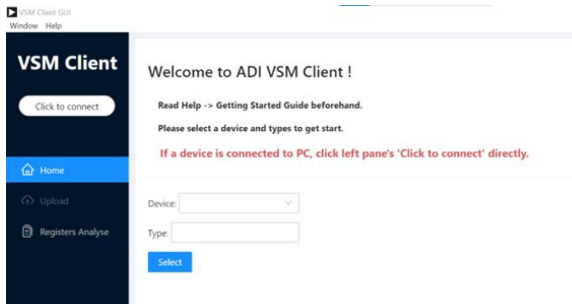

Figure 17. Start Interface of the VSM Client
2. Click **Click to connect** in the start interface of the VSM Client (see Figure 17).